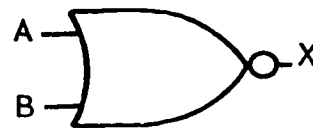

Figure 1-37. Figure for objective 002, exercise 7.
7. Write the correct output (X) for the logic symbol shown in figure 1-37, when A and B are high.